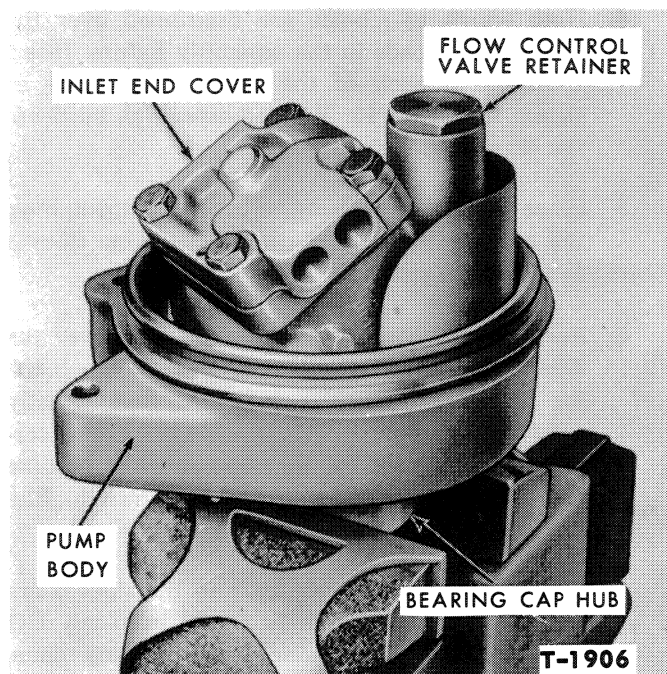

Figure 7—Sleeve-Type Pump with Reservoir Removed
6. Mount the pump in a vise so that the vise grips the turnbuckle attaching surface. Loosen the four hex head bolts which attach the inlet end cover to the pump body, Figure 7.